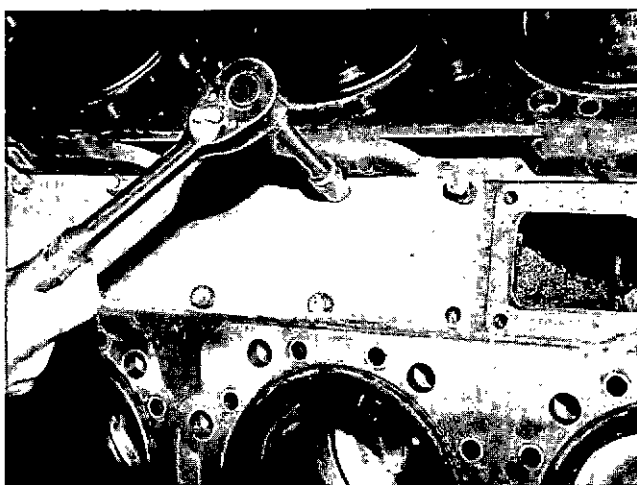

Fig. 0-35, V40067. Removing water header plates
1. Remove capscrews and lockwashers securing water header plates in "V" block; lift off plates and discard gaskets. Fig. 0-35.